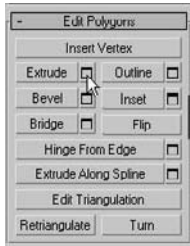

Figure 5.26
2. In the Modify panel under the Edit Polygons rollout, click the Extrude Settings button, as shown in Figure 5.26.